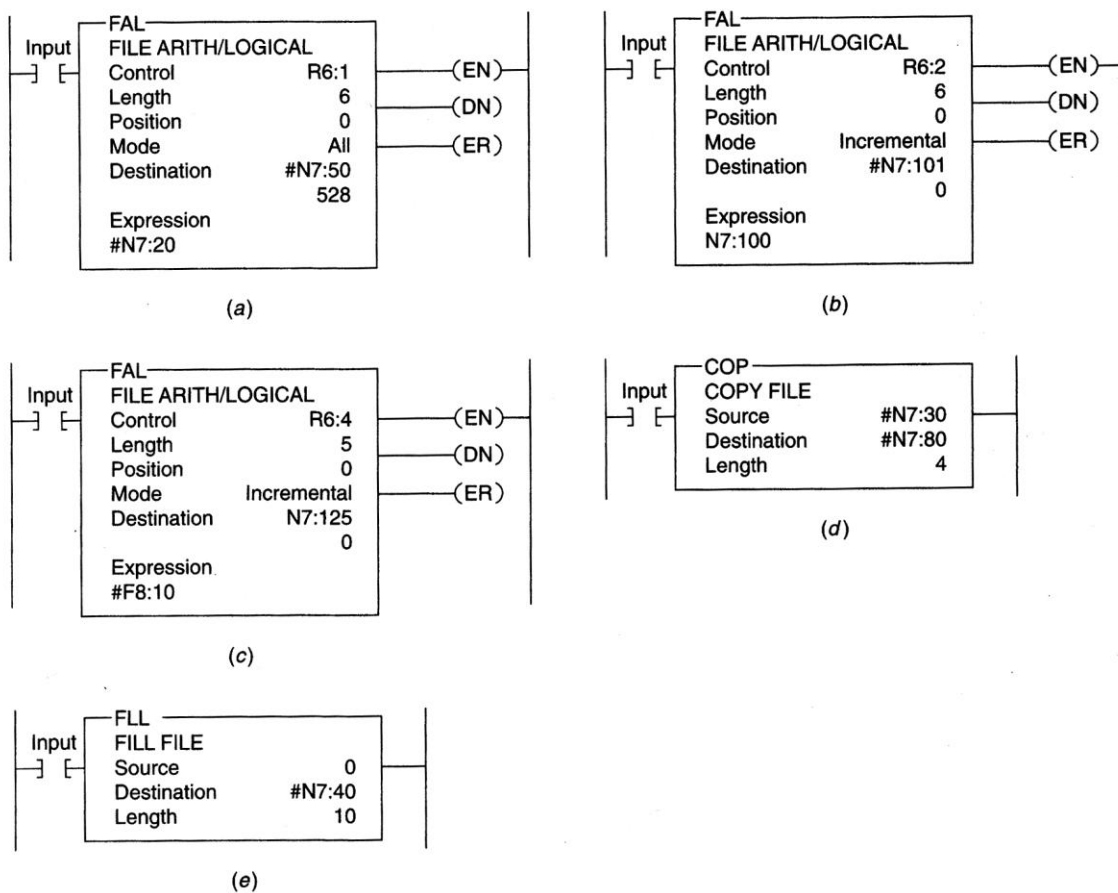

Figure 10-38 Copy instructions program for assignment 14.
14) Enter each of the file copy instructions, (a) through (e), shown in Figure 10-38 individually into the PLC, and prove the operation of each.